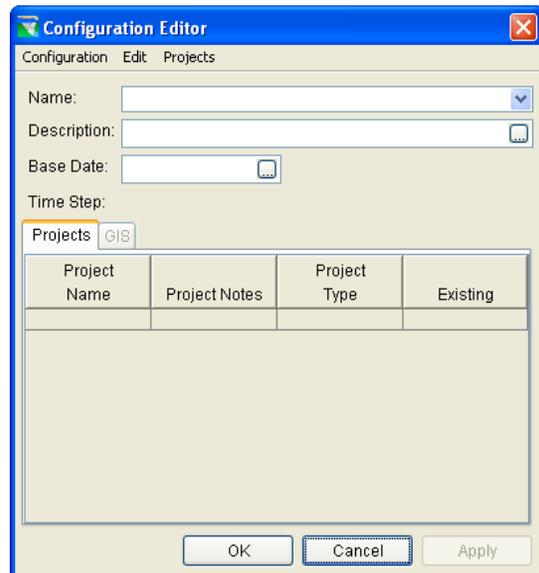

Figure 11. Configuration Editor
- **Create the Configuration.** From the **Watershed** menu, select **Configuration Editor**. From the **Configuration** menu in the Configuration Editor that has opened (Figure 11), select **New**. In the new configuration window, enter a **Name** and **Description** for the Configuration and select a time step from the **Time Step** list and press **OK**. Then, click **OK** in the Configuration Editor.